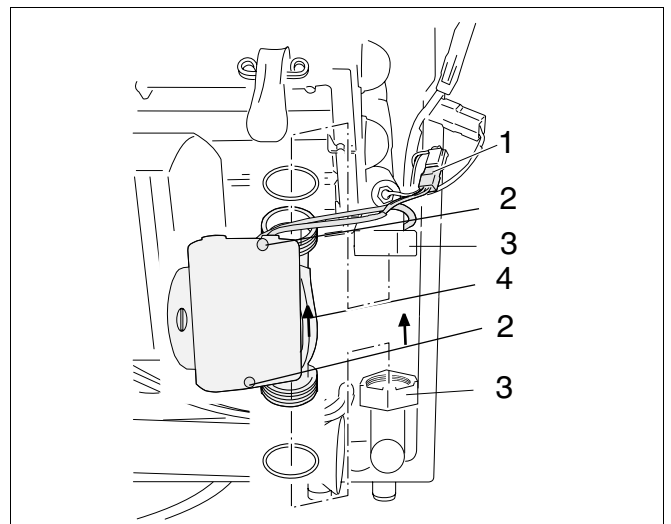

fig. 62 Replacing the modulating pump
- Disconnect the system from the power supply (fig. 62, item 1).
- Loosen screws on modulating pump terminal box and open terminal box (fig. 62, item 2).
- Loosen modulating pump screw-in adapters and remove pump (fig. 62, item 3).
- Fit new pump and connect to system (fig. 62, item 4). Ensure when doing so that the heat-exchanger spacer washer is inserted correctly.